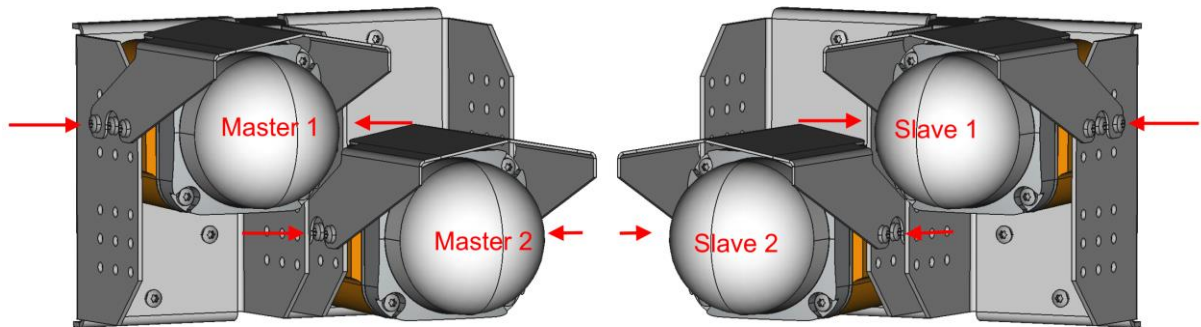

Figure 5.2: Mounting positions for mounting in the diversity mount for the master and slave side
- ⇒ Mount two radars into the mounting bracket. Use the exact mounting positions shown in Figure 5.2.
- ⇒ Repeat the first two steps on the other side of the measurement setup. Make sure to switch the mounting positions in a way, that the sensors face each other without horizontal or vertical offset (see Figure 5.2).